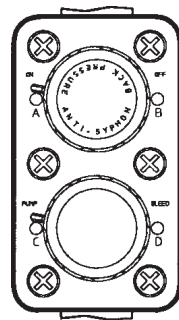

Figure 3.1
3.3 Air Bleed Operation (See Figure 3.1)